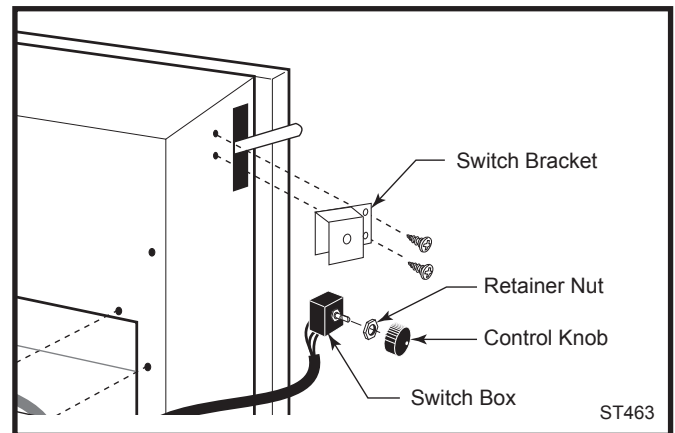

Fig. 19 Install the rheostat switch.
1. Install the Switch within the Switch Bracket that is provided with the stove in the Hardware Bag. Use the Retainer Nut and Control Knob provided in the Fan Kit. (Fig. 19)